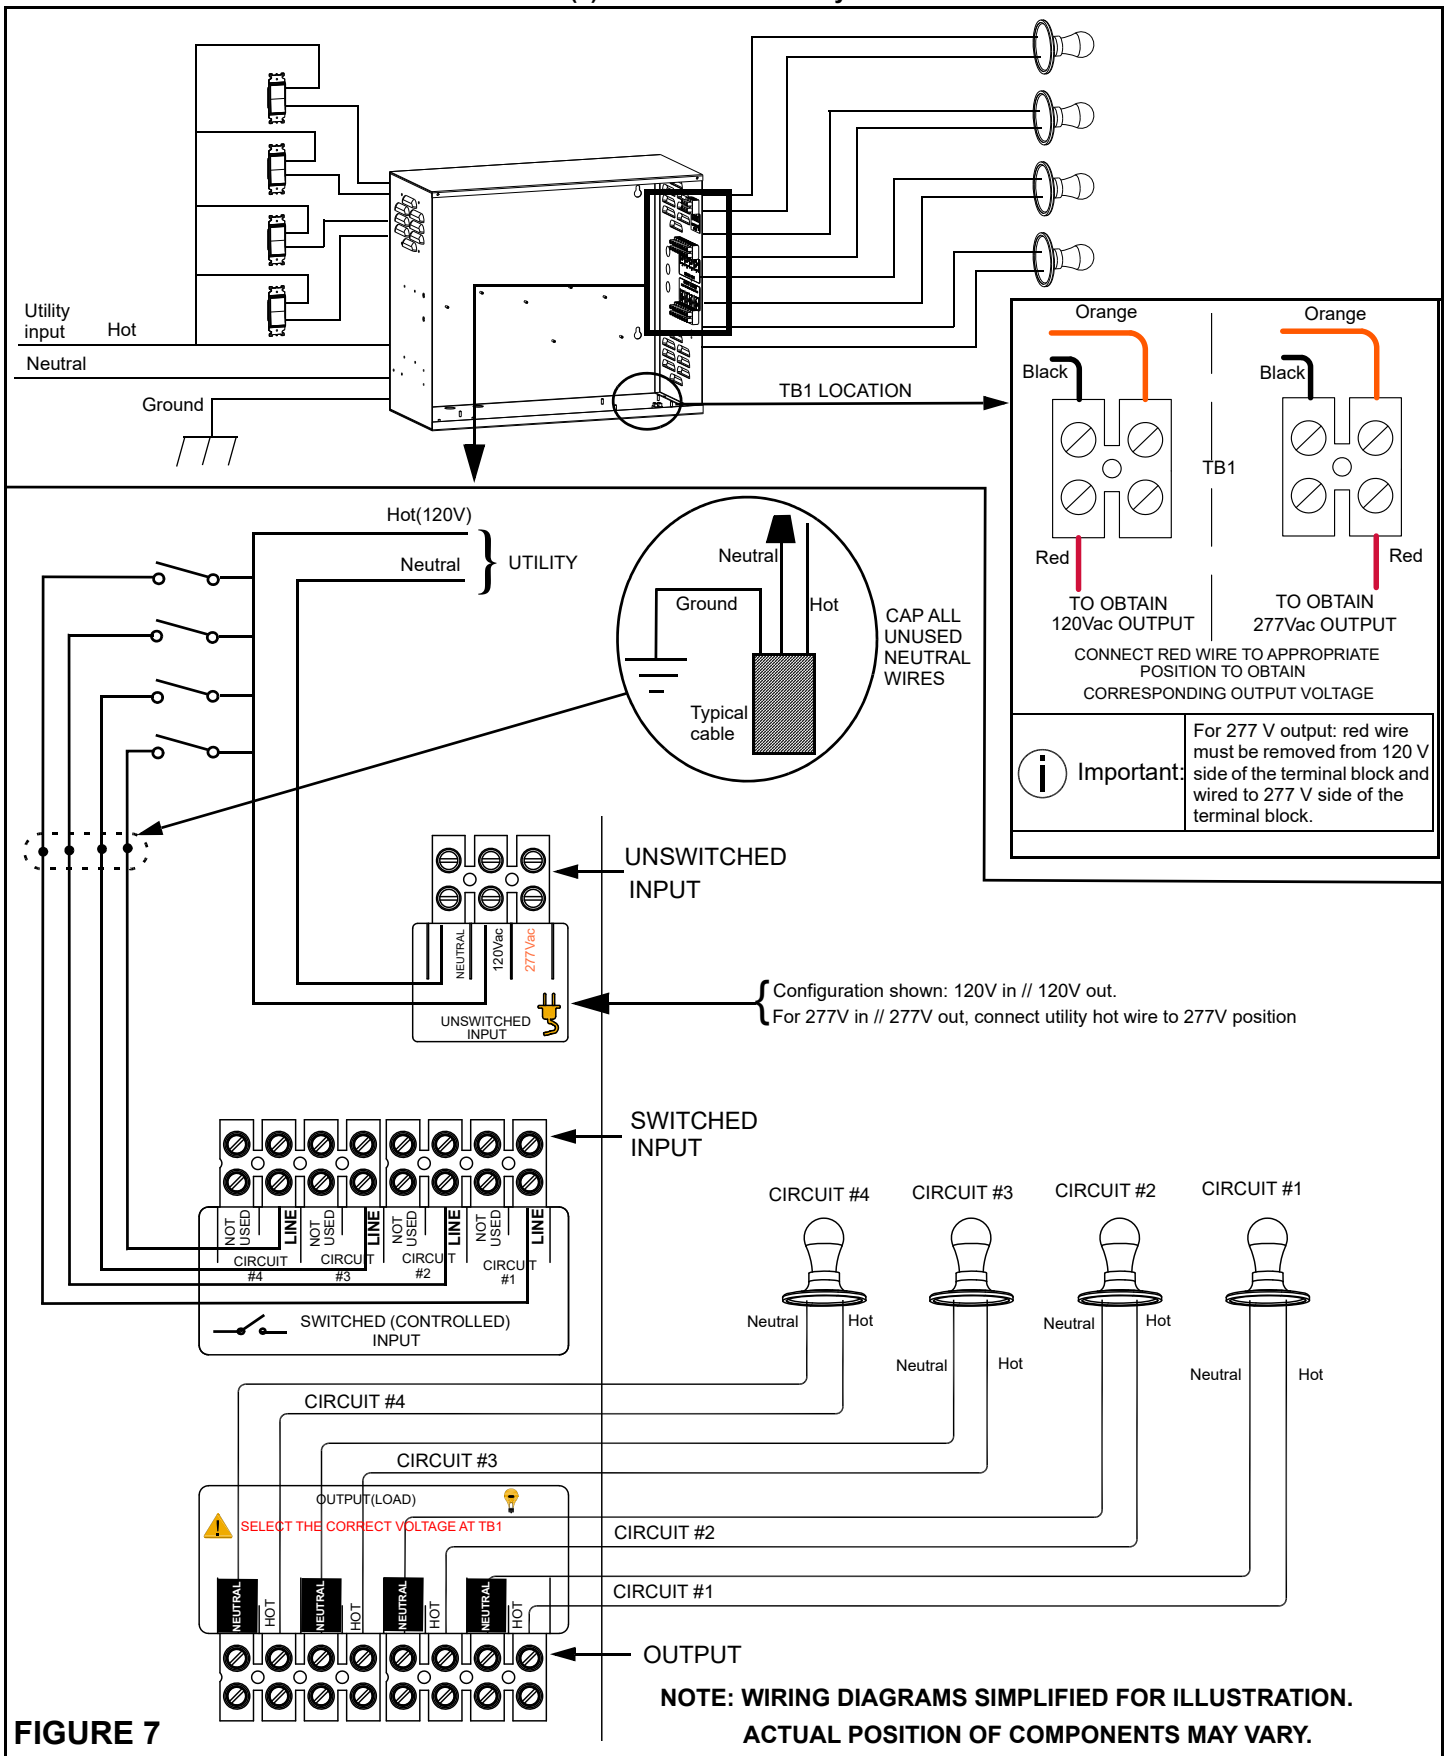

FIGURE 7
- Switched Load Operation** (Refer to Figure 7 for wiring details) - Fixtures can be externally controlled and will illuminate upon loss of utility AC power regardless of the state of the external control device (switch, motion sensor, dimmer, etc.).